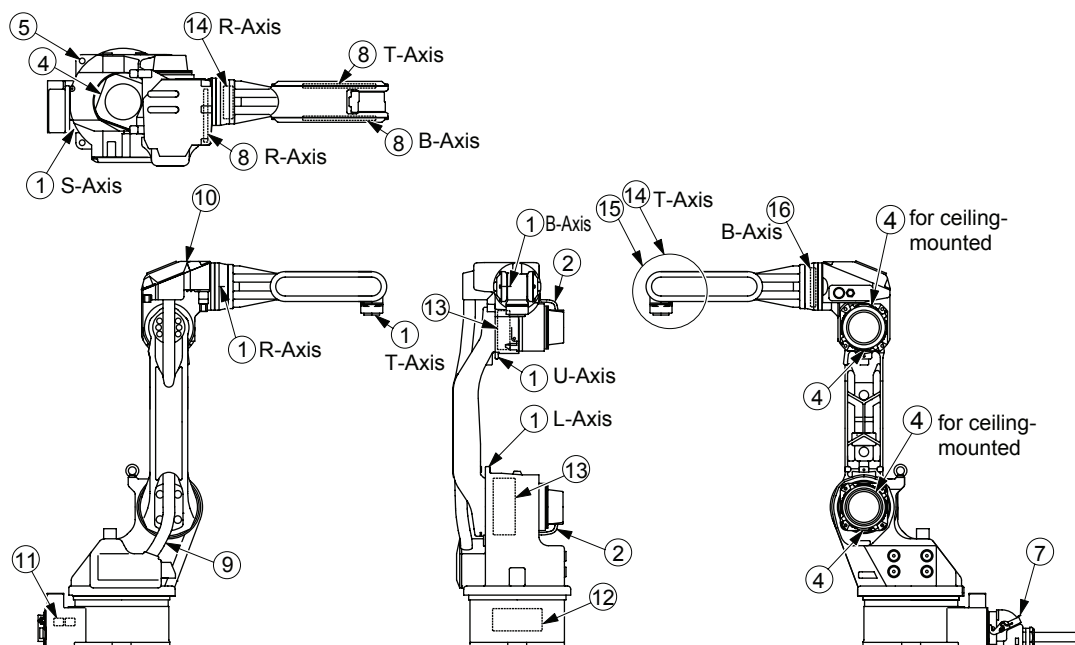

Fig. 23 Inspection Parts and Inspection Numbers
①⑥ R-axis cross roller bearing			○				Grease Gun	Check for malfunction. (Replace if necessary.) Supply grease ^{*3} (6000H cycle). See Par. " 9.2.7 Grease Replenishment for T-Axis Gear ", " 9.2.8 Grease Replenishment for R-Axis Cross Roller Bearing "		○	○
①⑦ Overhaul						○					○
***4** Inspection No. correspond to the numbers in " Fig. 23 Inspection Parts and Inspection Numbers ".